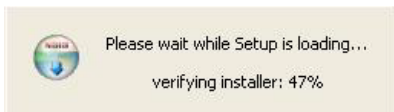

Figure 9. Beginning of SDP-H1 Driver Installation
- Click **Next** to complete the installation and to launch the SDP-H1 driver installation as shown in Figure 9.